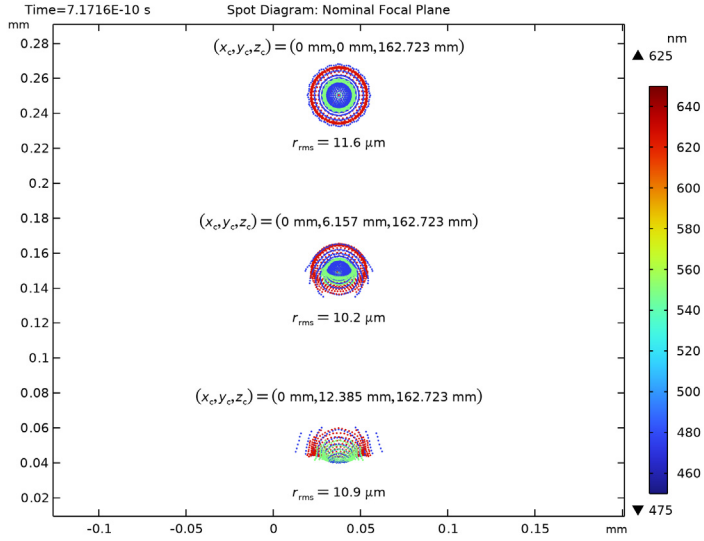
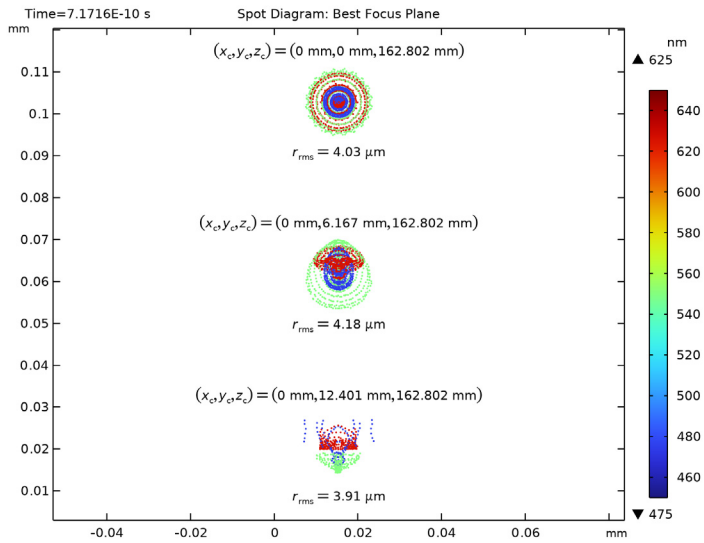

Figure 5: The image quality on the nominal image surface. This is the detector surface after being subject to thermal expansion.
Figure 6: Image quality on the best focus plane. That is, this is the surface that gives the minimum RMS spot size on-axis.
The image quality on the nominal and “best focus” image planes is shown in Figure 5 and Figure 6. When compared with a model not using hyperelastic effects (that is, Petzval Lens STOP Analysis) it can be seen that the image planes are shifted by $3 \mu\text{m}$ and $2 \mu\text{m}$ when comparing the nominal and best focus image planes respectively. This suggests that the hyperelastic material properties have a small, but not insignificant impact on the model.
Click the  **Zoom Extents** button in the **Graphics** toolbar. The nominal image surface spot diagram should look like Figure 5.
- 7 Click the  **Zoom Extents** button in the **Graphics** toolbar. The best focus spot diagram should look like Figure 6.